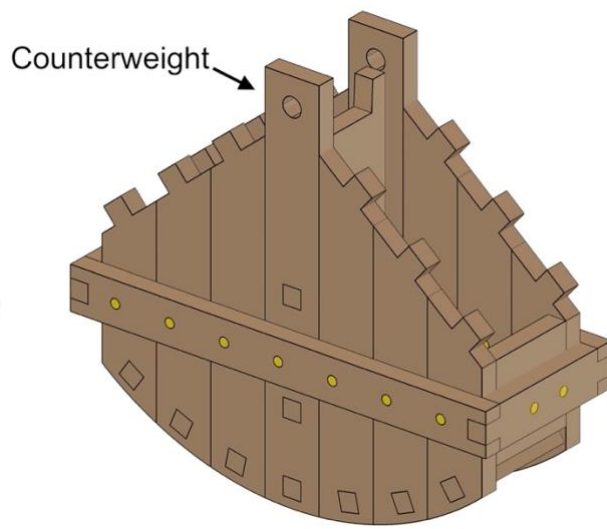

Fig. 84
- Fig. 84 shows the completed process.